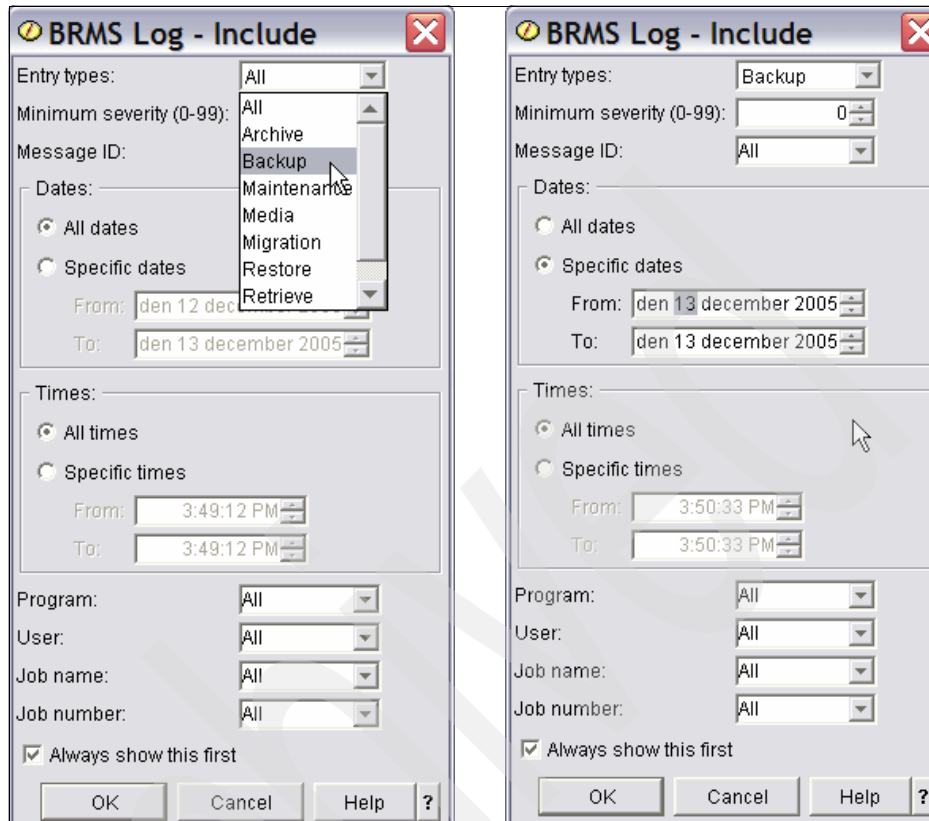

Figure 5-76 BRMS run Domino backup, select entries from BRMS log
5. In the BRMS Log Include Entry type shown in Figure 5-76 on page 258, select **Backup**.